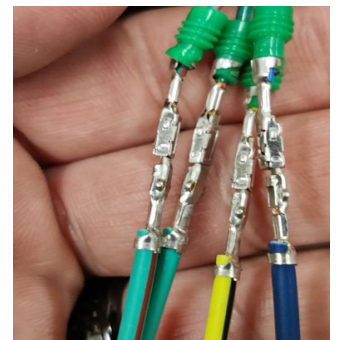

figure 20
16. Insert the female pin terminal of the original wires into the male terminal of the new wires (figure 20).